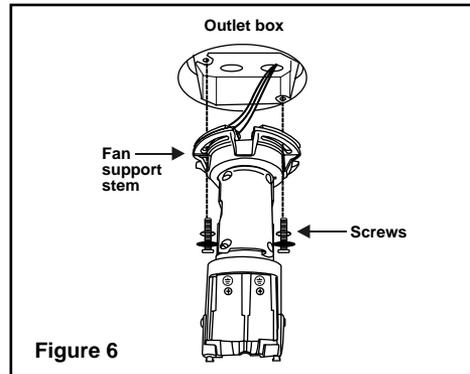

Figure 6
5. Remove the hook from the outlet box. Secure the fan support stem to the ceiling outlet box using the screws and washers included with your outlet box. (Fig. 6)